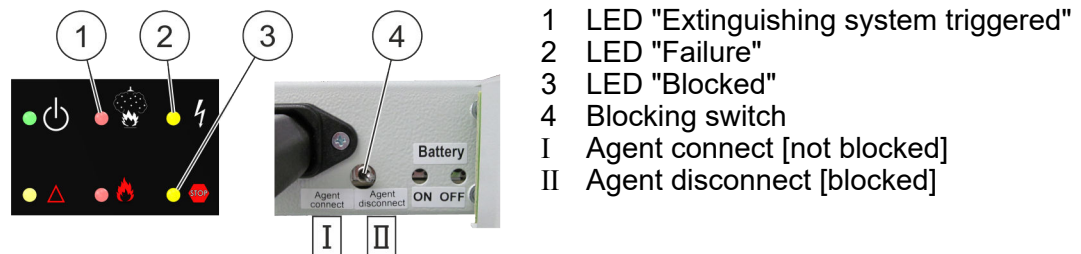

Fig. 63: Blocking
- Block the system prior to a function test. To this end, switch the blocking switch (Fig. 63/4) to "Agent disconnect [blocked]" (Fig. 63/II).
- The upper yellow LED (Fig. 63/2) lights up.
The lower yellow LED (Fig. 63/3) also lights up if a door fitted with a door contact switch is open.
- Prior to removing the blocking, make sure that the upper red LED (Fig. 63/1) is **not** illuminated as the extinguishing process will otherwise be initiated immediately.